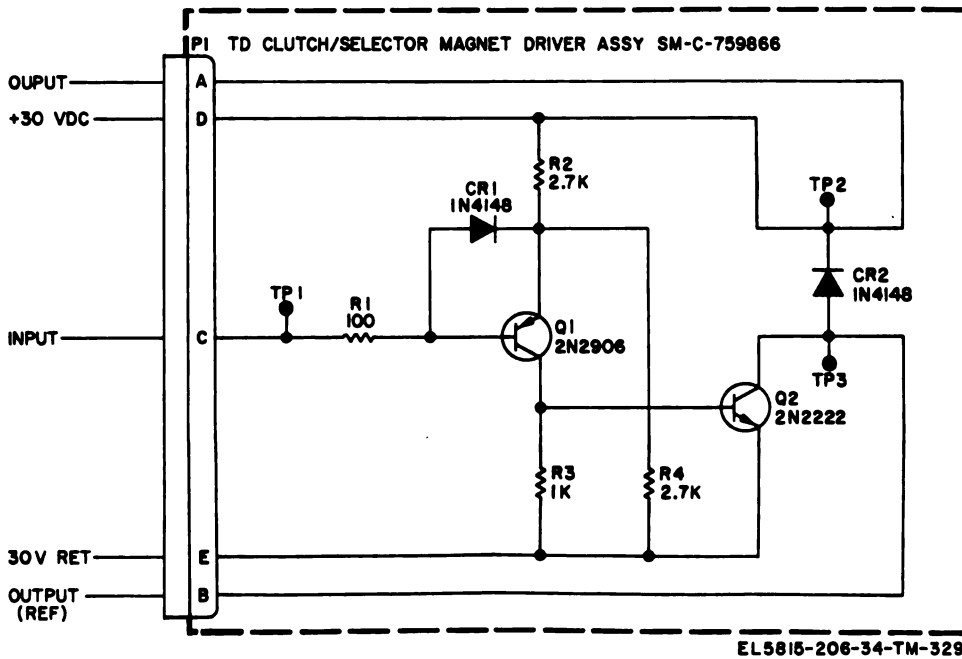

Figure 2-71. TD clutch/selector magnet driver module, simplified schematic diagram.
(2) TD Clutch/Selector Magnet Driver Module (fig. 2-71). A -12 volts from the receiver, resulting from a mark input, causes the base of Q1 to drop negative with respect to the Q1 emitter. THIS SWITCHES Q1 on. With Q1 on, a positive voltage appears on the base of Q2, which switches transistor Q2 on. Since Q2 is in series with the selector magnet coil, a path is completed from the return line through Q2 and the selector magnet coil to the +30 volt line. The direction of current flow through the coil causes TP2 to be positive with respect to TP3. The selector magnet windings are arranged in series and the full value of the selector magnet driver current passes through each winding. The LINE INCREASE potentiometer is in series with the selector magnet to allow for optimum adjustment of selector magnet current. A +12 volts from the receiver, resulting from a space input, causes the base of Q1 to rise positive with respect to the Q1 emitter. This switches Q1 off. With Q1 off, a negative voltage appears on the base of Q2, which switches Q2 off. Since Q2 is in series with the selector magnet coil, current does not flow in the selector magnet coil.